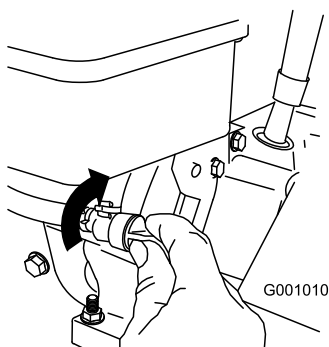

Figure 29
3. Close the fuel shutoff valve by rotating it clockwise (Figure 29).